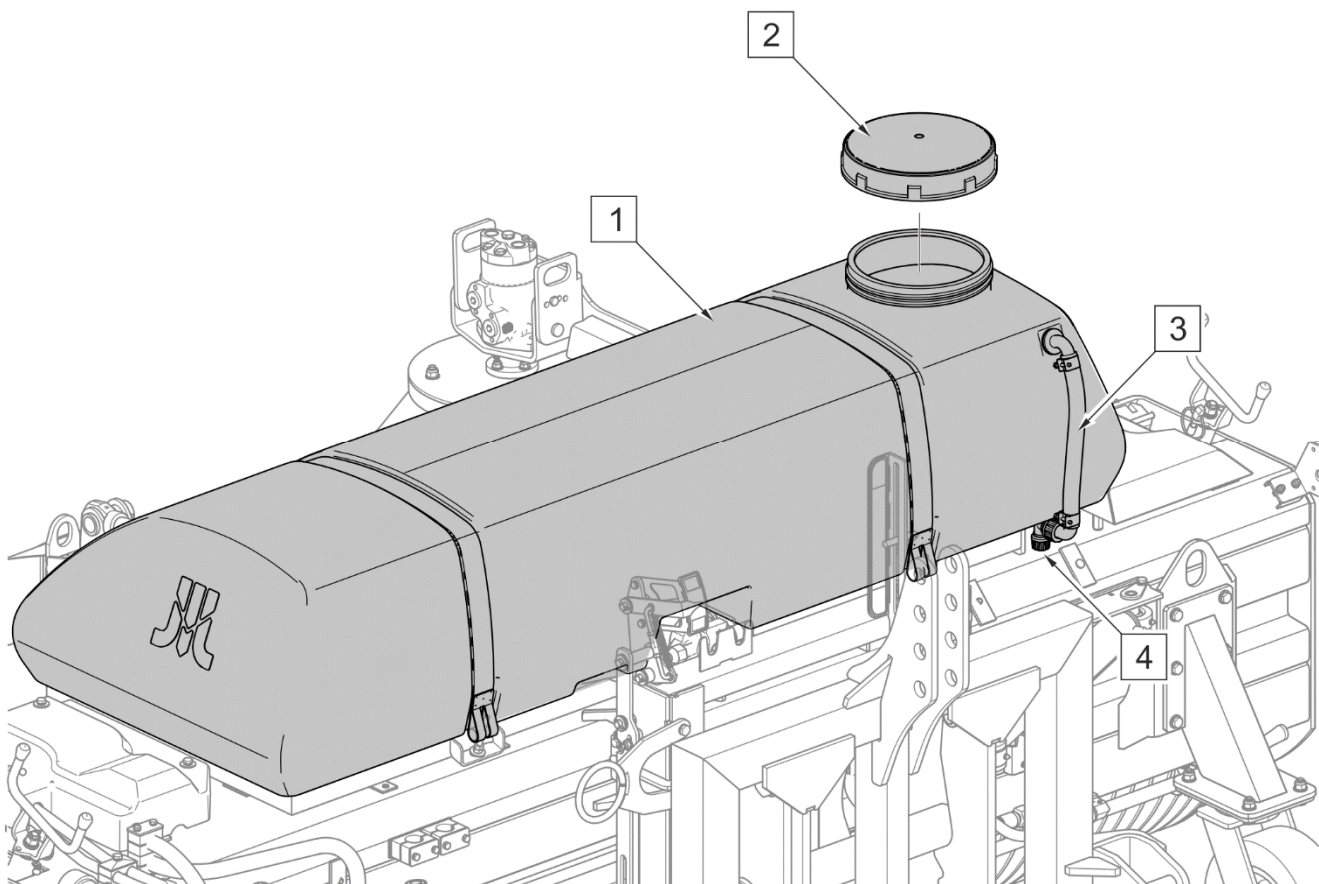
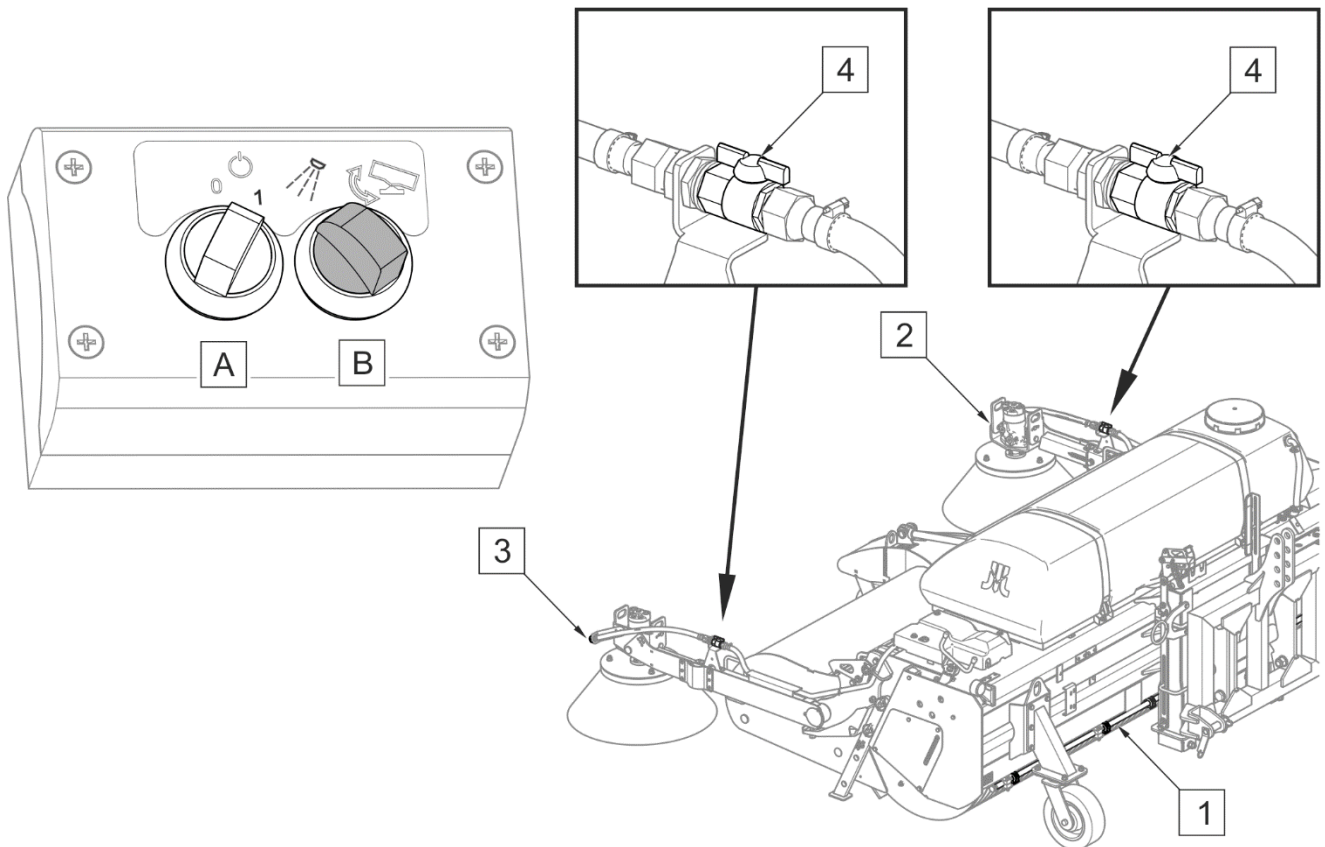

FIGURE 4.11 Water tank of sprinkler system
FIGURE 4.12 Sprinkler system control
The sweeper with sprinkler system is equipped with water tank holding 320 litres of water (or 200 litres, depending on version). Fill the water tank (1) through the filler opening secured with a cap (2) equipped with a vent (FIGURE 4.11). Water level is checked on the indicator (3) (this does not apply to 200-litres tank). There is the drain plug (4) at the bottom of the tank (this does not apply to 200-litres tank)
(1) - water tank; (2) - filler plug; (3) - water level indicator; (4) - drain plug.
To start the sweeper's sprinkler system (FIGURE 4.12), turn the switch (B) on the control panel maximally to the left. In order to switch on the sprinkler system, the main switch (A) should be in "1" position (ON).
If there is a risk that temperatures drop below 0°C, drain water from the sprinkler system through drain plug (4) (FIGURE 4.11). Blow the water pump through with compressed air.
Valves (4) can cut off the sprinklers (2) and (3) located next to the side brushes (FIGURE 4.12).
- Relocate securing cotter pin (1) of the latch interlock knob (2) from opening (I) to opening (II).
- Unscrew the interlock knob (2) until the latch (1) can be moved.
- Manually raise the side brush until the latch (1) is interlocked with the brush arm.
- Tighten latch interlock knob (2) and insert cotter pin (1) to opening (II).
- Switch off the side brush drive (FIGURE 4.11) and close the side brush sprinkler valve (FIGURE 4.12)